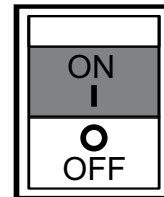

Figure 16. Operation Switch (ON)
4. Place the generator's operation switch (Figure 16) in the **ON** position.